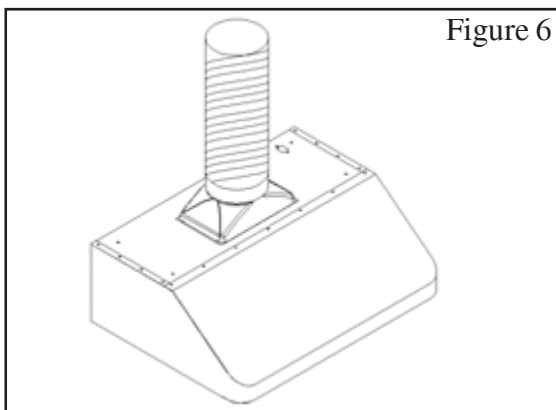

Figure 6
3. Use 8" round steel pipe (follow building codes in your area) to connect the exhaust on the hood to the ductwork above. Use silver tape or duct tape to make all joints secure and air tight. Refer to Figure 6.